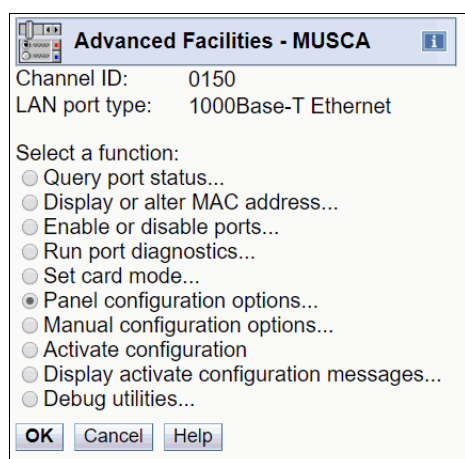
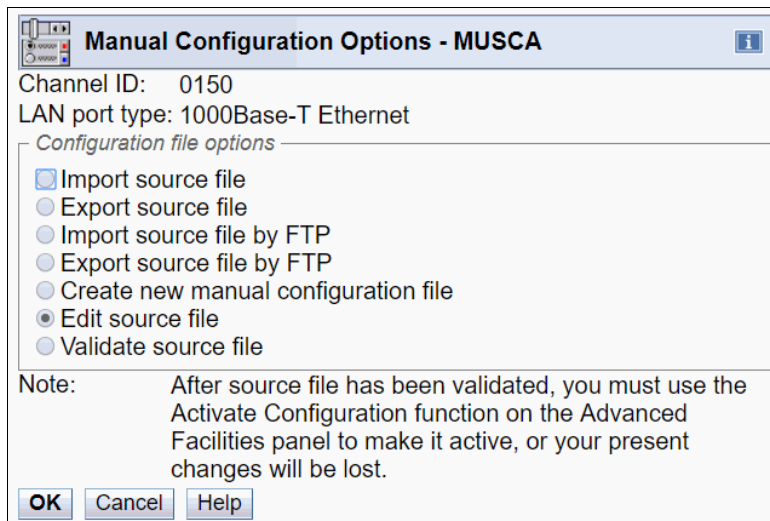

Figure 6-7 OSA/SF on the HMC Panel configuration options
Figure 6-20 OSA/SF on the HMC: Manual Configuration options
3. The Advanced Facilities window opens (see Figure 6-7). To edit OAT and SNA timer entries, select **Panel configuration options** and click **OK**.
17. If you select **Manual configuration options** (see Figure 6-7 on page 129), the window that is shown in Figure 6-20 opens. In this window, you can import or export the source file of OAT by using a USB device or FTP, create a configuration file in the editor on HMC, and edit the source file. For more information, see *Open Systems Adapter/Support Facility on the Hardware Management Console*, SC14-7580.